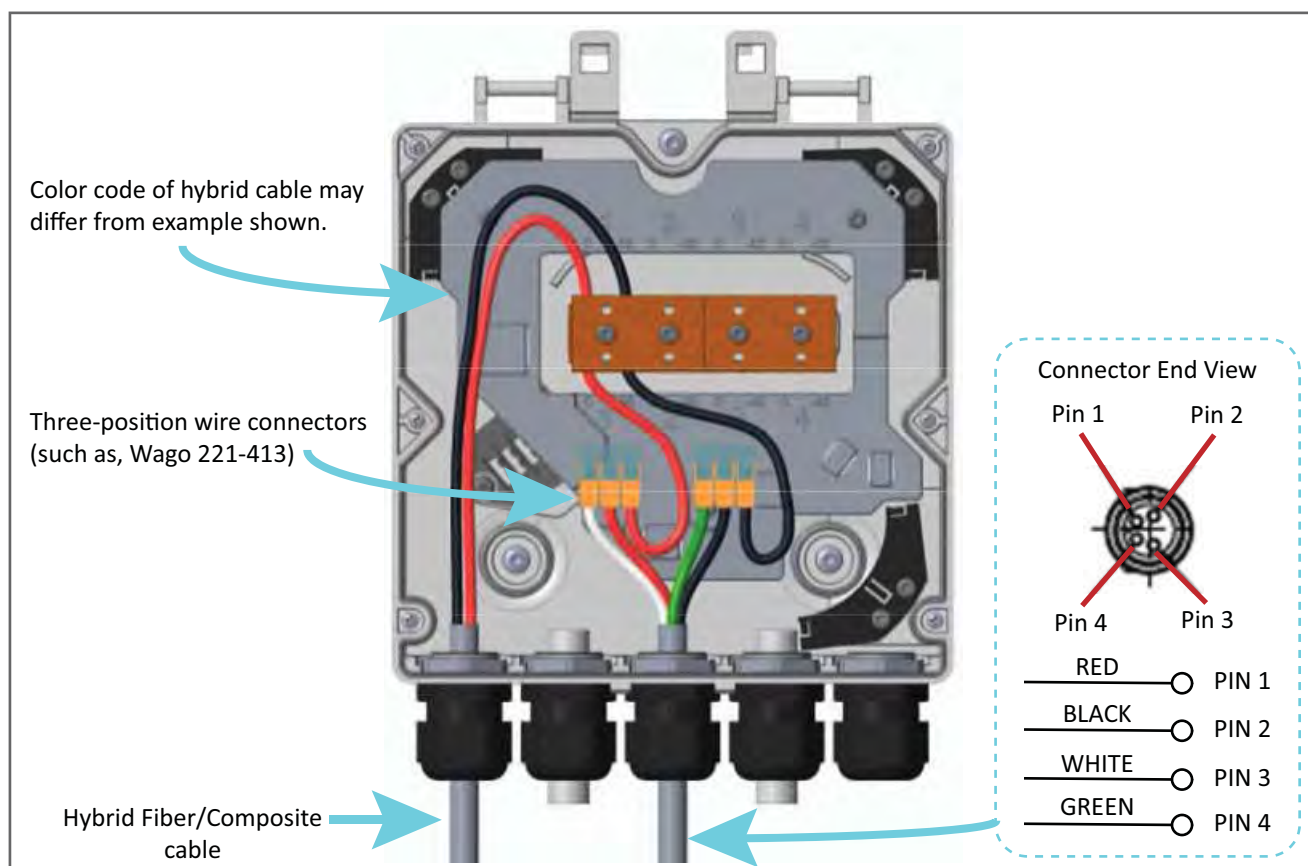

Figure 20. Wiring a Hybrid Fiber Splice Box for 2-Wire Power without LPS
- 1 Refer to Table 11 and Figure 20 to wire a Hybrid Fiber Splice Box for 2-Wire power without an Limited Power Source (LPS).